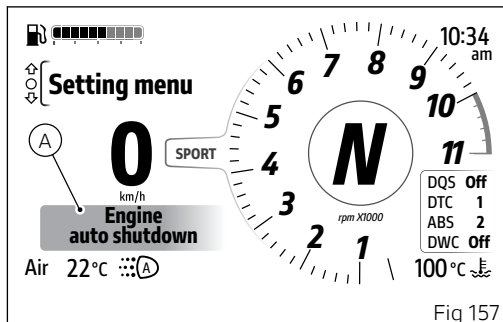

Fig 157
- “Engine auto shutdown” (A, Fig 157)